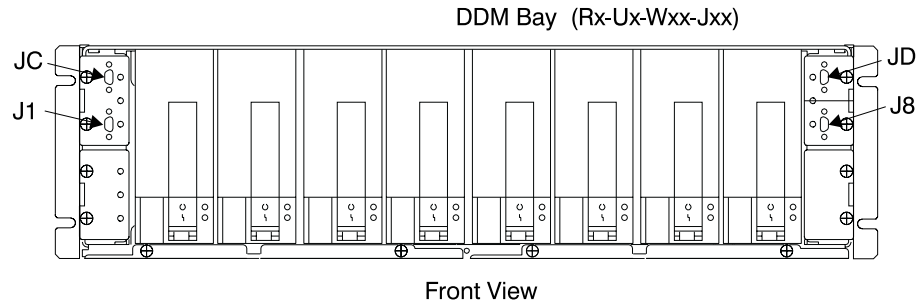

Figure 68. DDM bay SSA Connector Locations (S007693l)
1. Locate the two SSA cables displayed on the service terminal as possible FRUs. For this isolation procedure, the SSA cables will be connected between a DDM bay and SSA device cards. The service terminal will identify the DDM bays and their SSA connectors, and the SSA device cards and their SSA connectors. To locate a drawer, see “Locating a DDM Bay or SSA DASD Model 020 or 040 Drawer in a 2105 Rack” in chapter 7 of the *Enterprise Storage Server Service Guide, Volume 3*. To locate SSA cable connectors on a DDM bay, see Figure 68 on page 149.